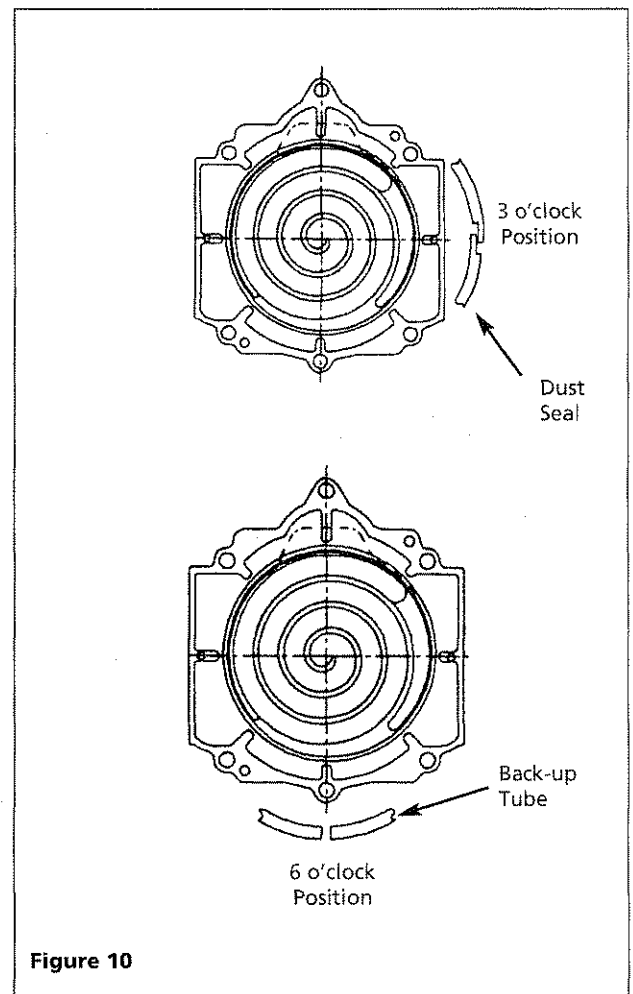

Figure 10
4. Insert new backup tube in the FS Scroll in the 6 o'clock position (See Figure 10).
5. Insert new dust seal on the backup tube. Face seamed section of the dust seal in the 3 o'clock position (See Figure 10).